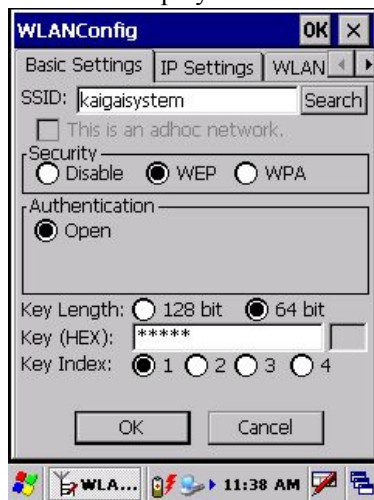
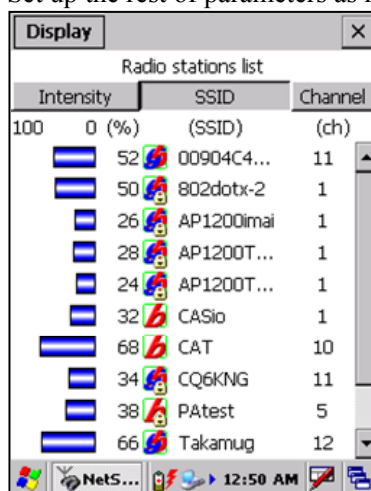

Figure 5.23
Figure 5.24
4. If you wish to choose a desired Access-Point from the **SSID** pull-down menu, click **Search** button and initiate the **NetSearch** tool. It will search all Access-Points which are broadcasting SSID and display a list as shown in Figure 5.24.
- If you double tap one of the SSIDs in the list (see Figure 5.24), the SSID will be input in the SSID field in **Basic Settings** tab (see Figure 5.23) of **WLANConfig** (the WLAN Settings toll). Set up the rest of parameters as required.
- Information appeared in Figure 5.24 is updated every five seconds.